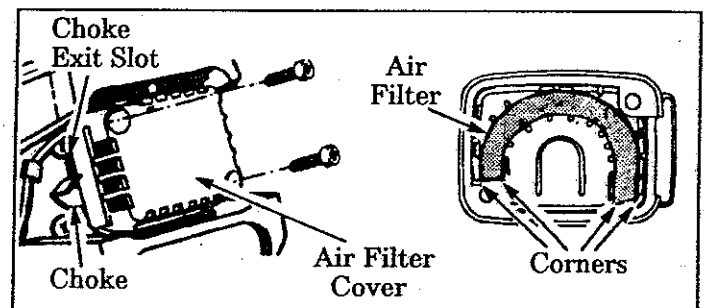

Figure 27
- a. Loosen the two Screws on the Air Filter Cover enough to remove the Cover from the Engine. Figure 27 .
- b. Remove the Air Filter from the Cover. Figure 27 .
- e. Reinstall the Air Filter Cover, making sure the Choke Exit Slot (Figure 27 ) is placed over the Choke Lever.